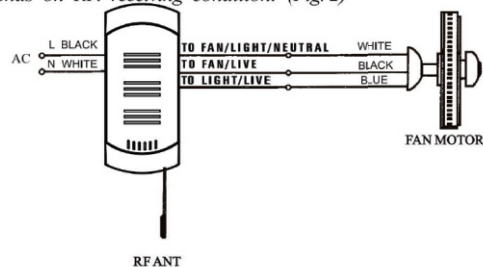
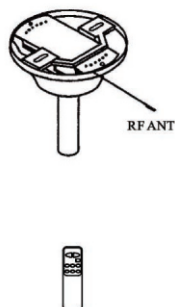

Fig. 1.1
Fig. 2
3. Make the wiring connection as shown in Fig. 1.1 and 1.2. RF. sensor must be stuck outside canopy. Its position depends on RF. receiving condition. (Fig. 2)